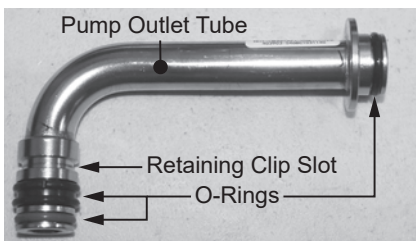

Figure 169 - Pump outlet tube O-rings
- Locate new pump outlet tube and three (3) O-rings provided in the kit. The pump outlet tube uses one (1) 14 x 2.5 O-ring on the inlet side, one (1) 14 x 7 double seal O-ring on the inlet side, and one (1) 15 x 2.5 O-ring on the outlet side. Install O-rings to tube. Install tube to water pump and secure with retaining clip. Install tube to water connection and secure with spring clip (size 25). Proceed to **Step 33** if not replacing water pump. See Figure 169.
The pump outlet tube uses one (1) 14 x 2.5 O-ring on the inlet side, one (1) 14 x 7 double seal O-ring on the inlet side, and one (1) 15 x 2.5 O-ring on the outlet side. See Figure 169.